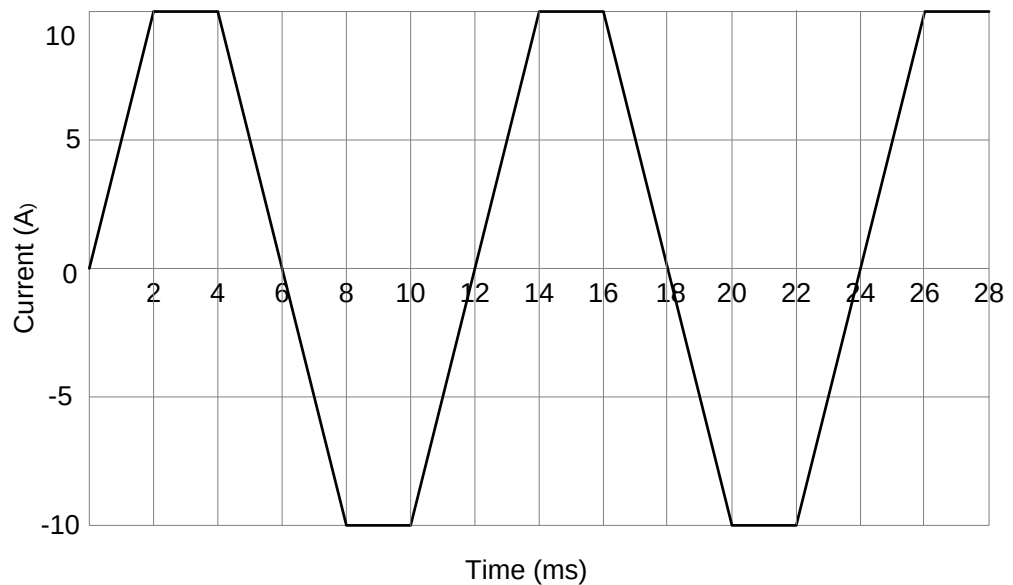

Figure Q1-a
a. For the periodic load current waveform of Figure Q1-a, calculate: